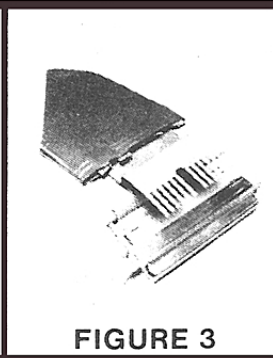
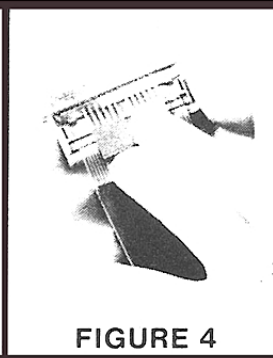
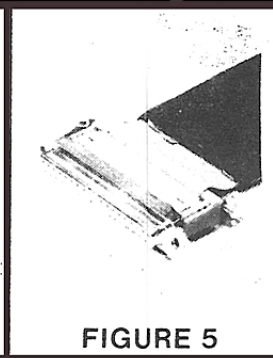

FIGURE 3
FIGURE 4
FIGURE 5
5. Insert one grounding spring between cable and shielding, see Figure 3. Making sure that the grounding fingers are making contact with metal shell of the connector as in Figure 4 then seat into bottom half of the backshell as shown in Figure 5.